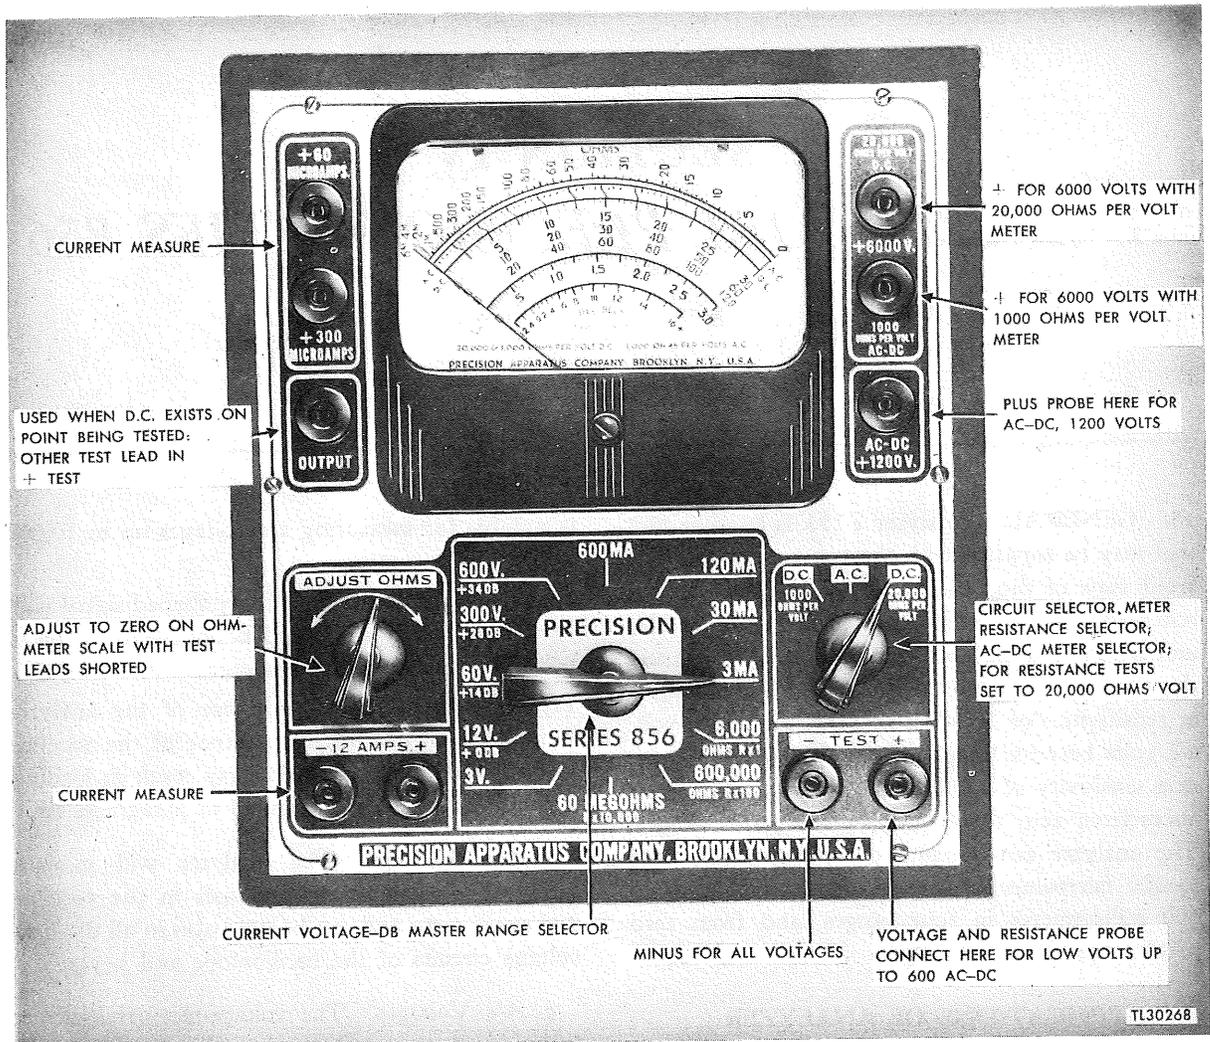
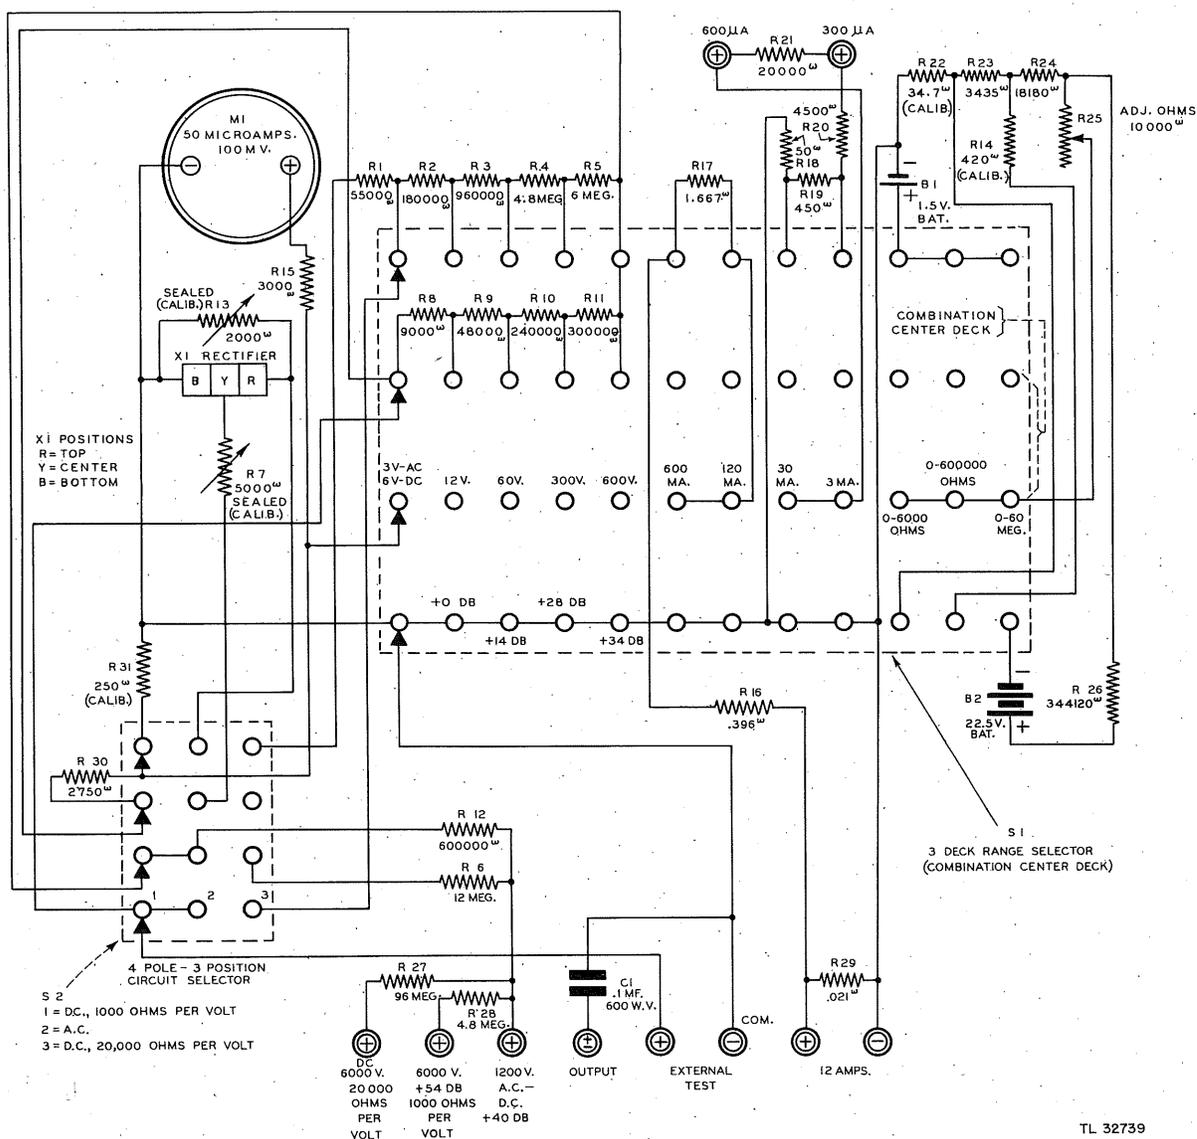

Figure 8. Analyzer I-153, Precision model 856, panel view.
Figure 9. Analyzer I-153, Precision model 856, schematic diagram.
18. GENERAL. Analyzer I-153 is another unit that may be supplied with the test equipment. The front view of the panel is shown in figure 8. The schematic of this tester is shown in figure 9. This unit is a multirange instrument equipped to measure d-c volts between zero and 6,000 in seven ranges, at sensitivities of 20,000 and 1,000 ohms per volt; a-c volts between zero and 6,000 in seven ranges, at a sensitivity of 1,000 ohms per volt; and resistances from zero to 60 megohms in three ranges. The analyzer can measure d-c current from zero to 300 microamperes in two ranges, from zero to 600 milliamperes in four ranges, and from zero to 12 amperes in one range.
a. Limitations. (1) Operating voltages in Radio Set SCR-268-(*) cover a range from a fraction of a volt to about 11,000 volts. Voltages in parts of certain components cannot be measured by the analyzer because they exceed the range of the analyzer. Such voltages appear in the transmitter, the rectifier, the modulator, the high-voltage power supply (to the cathode-ray tube), the oscilloscope, and the final amplifier and high-voltage power supply circuits of the keyer.
(2) The schematic diagram (fig. 9) shows the values of component parts.